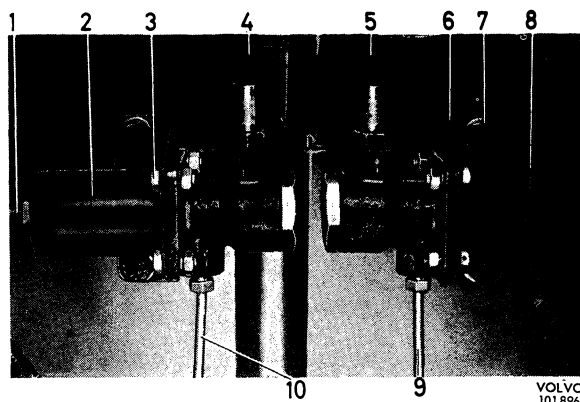
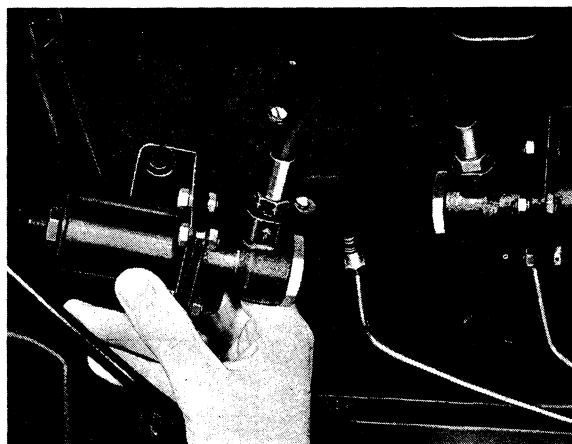

Fig. 5-57. Brake valves fitted
Fig. 5-58. Removing brake valve
Unscrew and plug the connection of the brake pipe (10, Fig. 5-57). Slacken the brake hose (4) a max. 1/4 turn at the valve. Remove the attaching screw and unscrew the valve from the brake hose, see Fig. 5-58.
Screw the brake valve on to the brake hose, see Fig. 5-58. Place the valve in position and check that there is no tension in the hose. Fit the attaching bolts and connect up the brake pipe. Tighten the connections. Bleed the brake system.